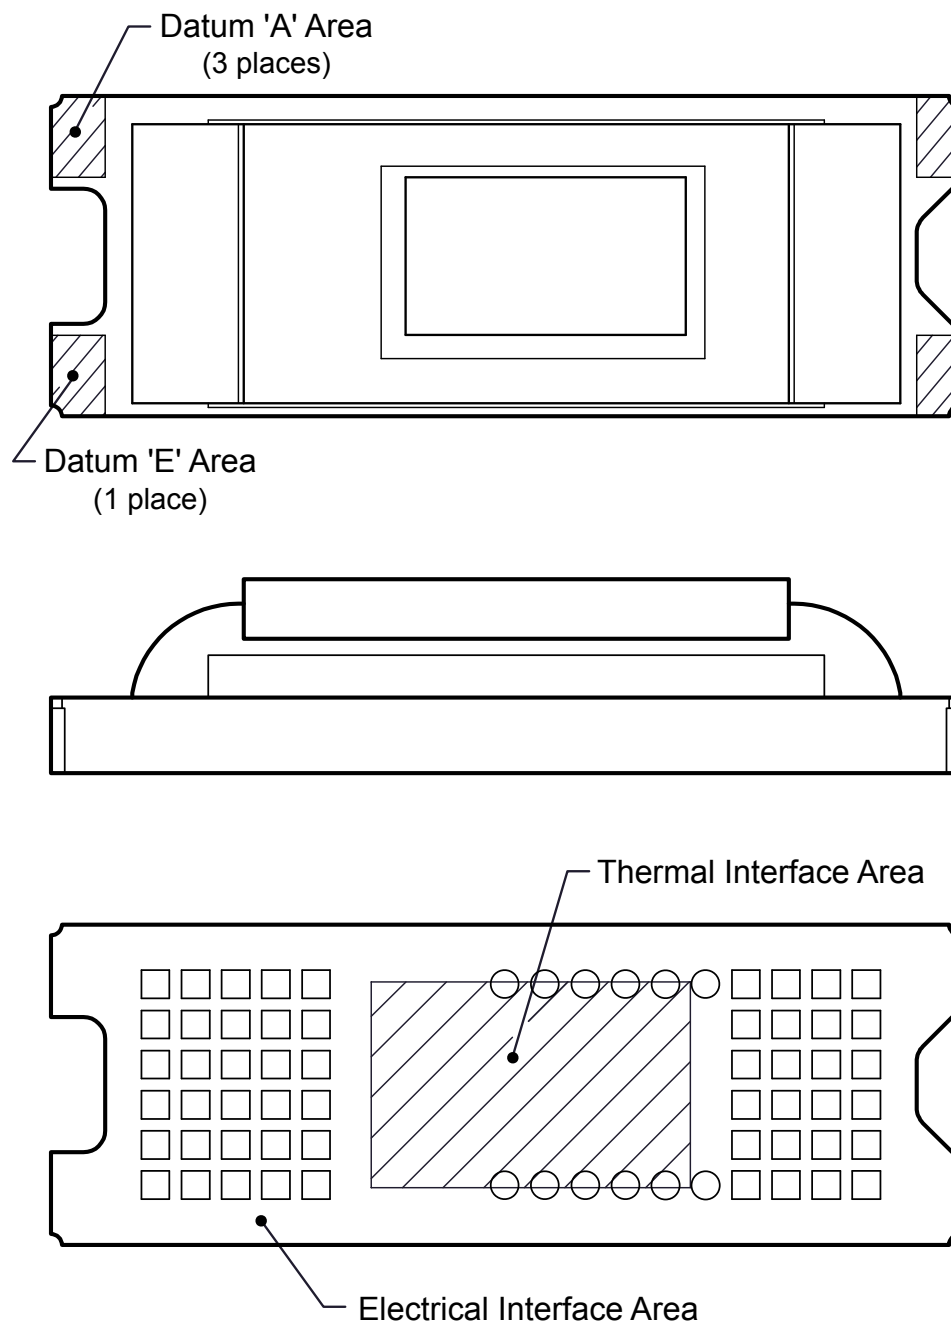

Figure 14. System Interface Loads
(1) Uniformly distributed within area shown in Figure 14.